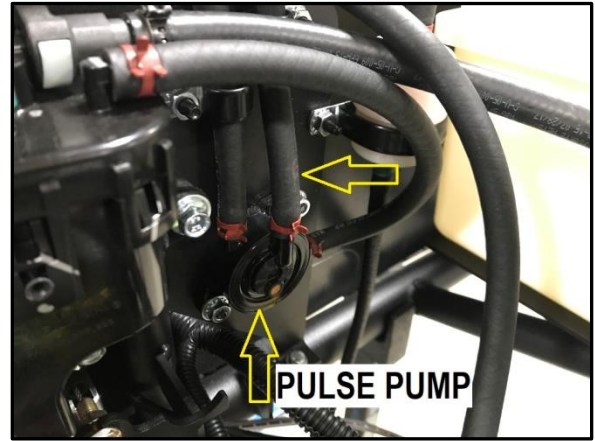

Fig 2 – Pulse Pump Detail
- 3- Loosen and slide clamps away from connection at the pulse pump and at the engine crankcase connection. (Ref Figs 2 and 3)